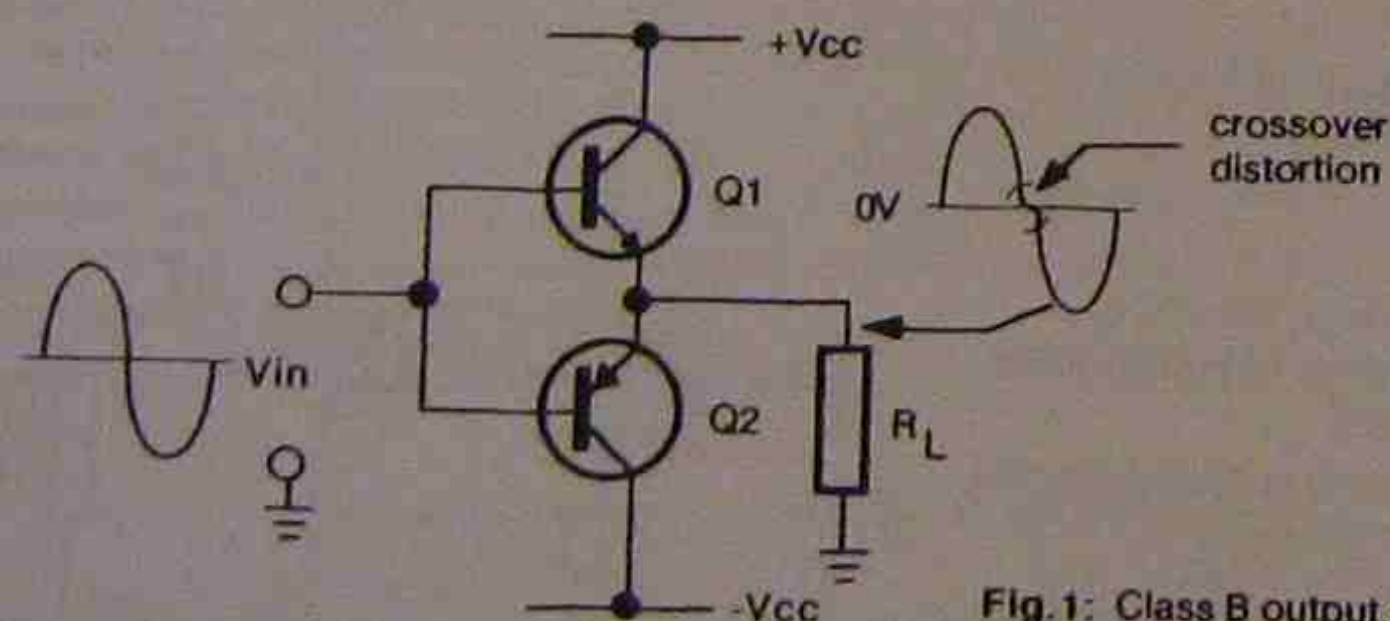
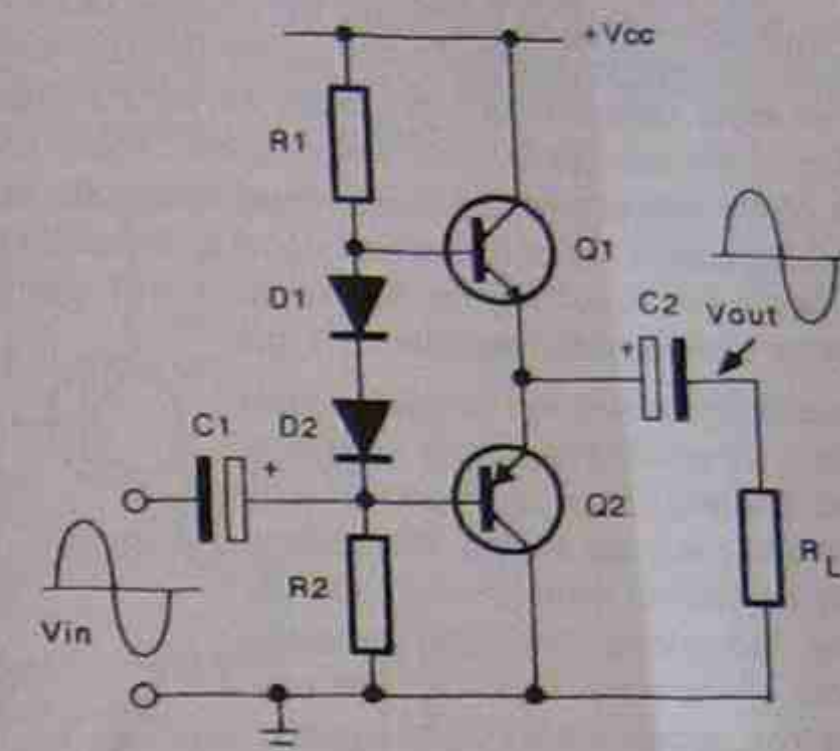

Fig. 1: Class B output stage
Fig. 2: The basic class AB, complementary symmetry amplifier
The circuit of Fig. 1 shows the basic class B, complementary symmetry power output stage. The points to note about this circuit are:
The circuit of Fig. 2 shows how forward bias can be applied to the basic class B configuration shown in Fig. 1. Note the following about Fig. 2:
- As for the basic class B circuit, the circuit of Fig. 2 is effectively two emitter followers connected so that Q1 passes the positive half cycle of the input signal to the load, and Q2 handles the negative half cycle. However because there is now forward bias applied to the circuit, both transistors will conduct for more than 180° of the input signal, and crossover distortion is therefore eliminated.